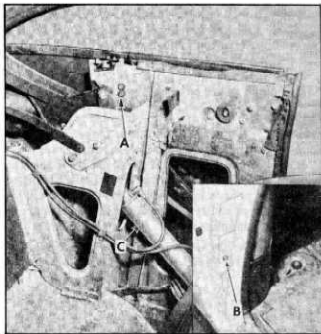

Fig. 22—Convertible Rear Quarter Window Adjustment
2. "Up" travel is also controlled by stop "A". Loosen bolts and position stop at desired location, retighten bolts (fig. 22).
2. The quarter window guide channel is adjusted in or out by loosening the bolt "B" on body lock pillar face and nut "C" at the adjusting stud on inner panel. Move guide to desired position then retighten nut and bolt (fig. 22).